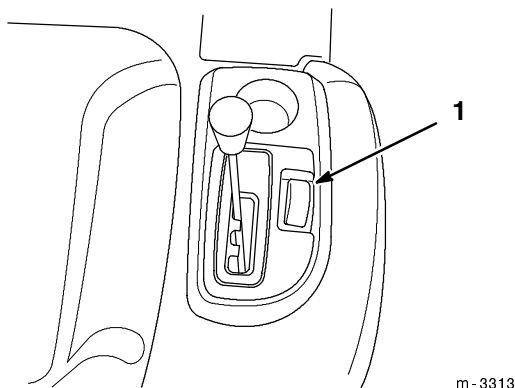

Figure 23
The cruise control is a switch (Fig. 23) on the right fender that maintains a set traction control position without foot pressure. The cruise control only operates when moving forward.
1. Begin driving the tractor; refer to Driving Forward or Backward, page 22. While holding your foot steady on the traction control pedal, push the cruise control switch (Fig. 23) to the “SET” position. This locks the traction control in position and your foot can then be removed from the traction control. A constant pedal position will be maintained.